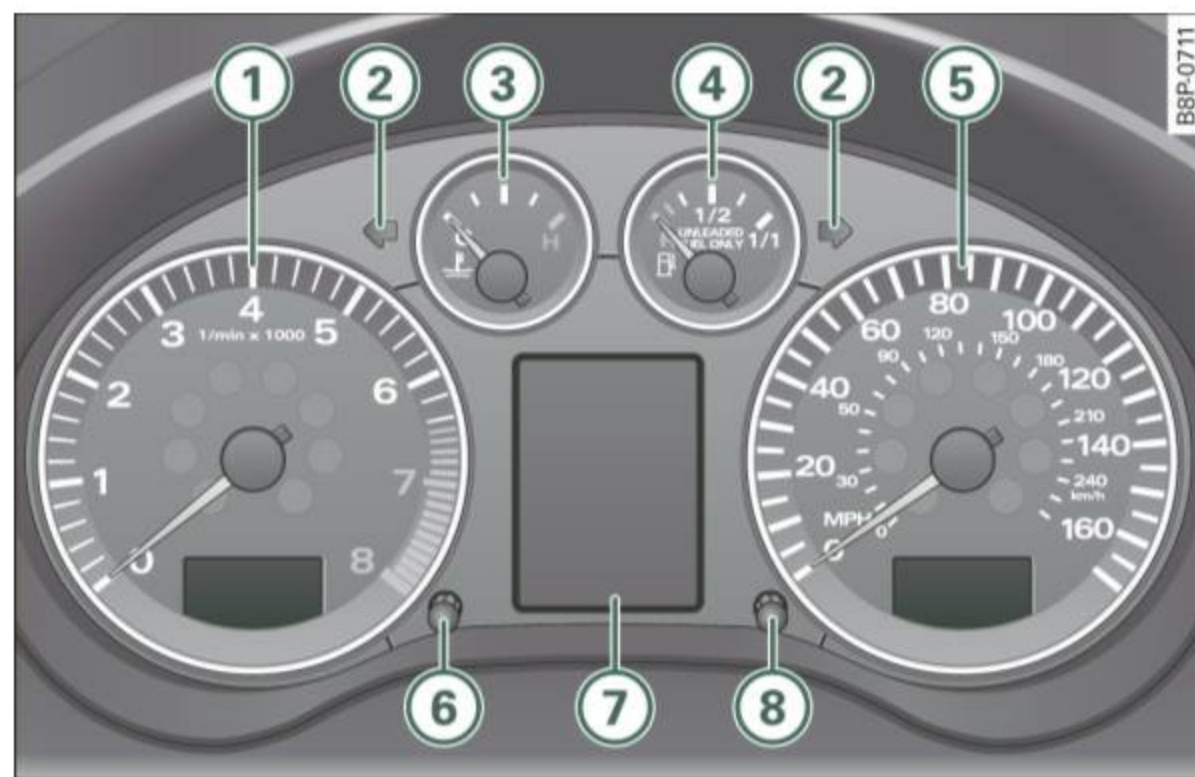

Fig. 2 Overview of the instrument cluster
The tachometer ① ⇒ fig. 2 is the left one of the two large clock-type displays.
The tachometer needle ⇒ *page 12, fig. 2* ① should not move into the red range. If it does, then only for a very short period of time. You could damage your engine by driving at high RPM!
With the ignition off, pushing or pulling the Set/Check button ⇒ *page 12*, fig. 2 ⑥ - depending on the instrument cluster configuration - can turn on the display field lighting for a few seconds.
The engine coolant gauge ③ ⇒ *page 12*, fig. 2 only works when the ignition is on. To prevent damage to your engine, please note the following important points:
- When the ignition is turned off, the odometer reading and the digital clock with date display can be switched on for about 30 seconds by pressing the knob ⇒ page 12, fig. 2 ⑥. ■